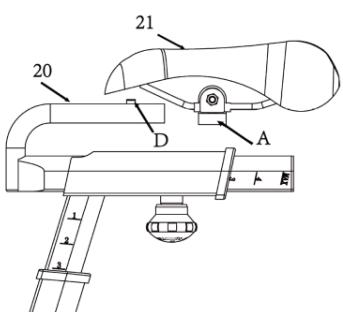

Figure 2
2. Slide the **Seat (No. 21)** onto the **Seat Slider (No. 20)**. The points on the front edge of the **Seat Clamp (No. A)** will go into the **Indentations (No. D)** on the **Seat Slider (No. 20)**, and the V-shaped stopper at the end of the **Seat Clamp (No. A)** will be in contact with the back edge of the **Seat Slider (No. 20)**. (Figure 2)